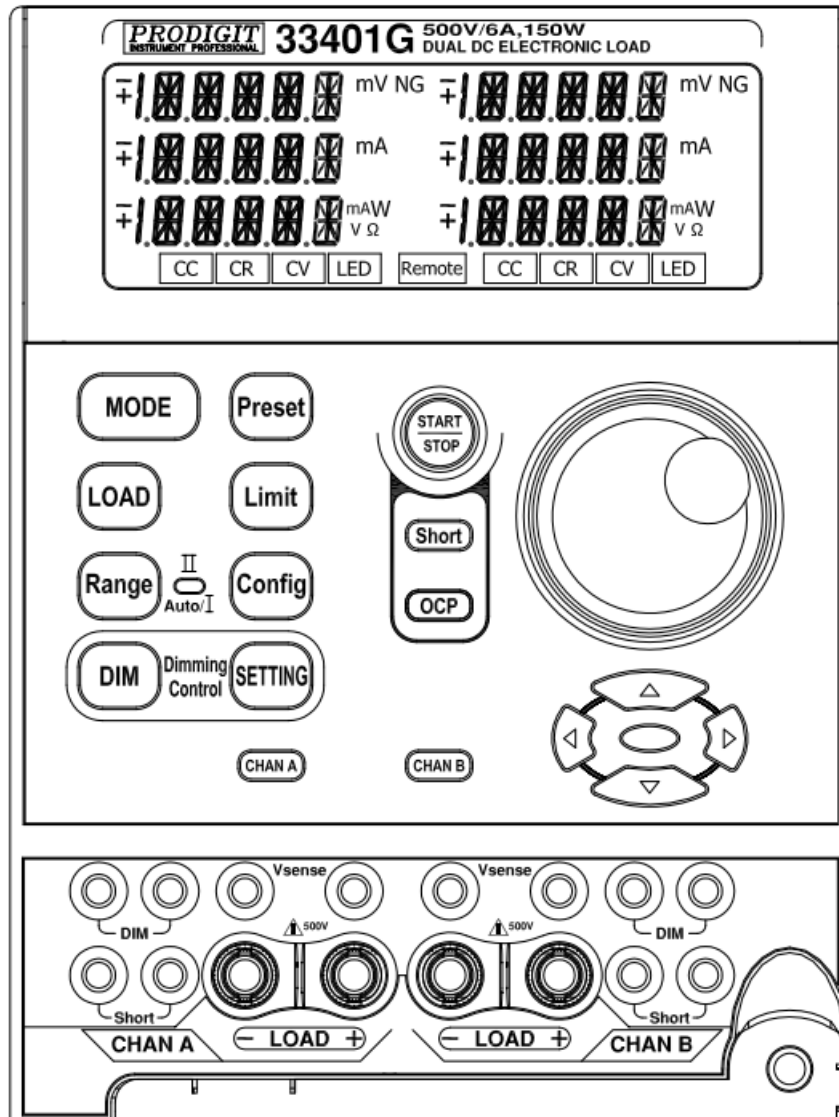

Fig 2-1 Binding post and withdraw handle on the front panel of 33401G Plug-in load module
- 2.1.1.4 Use the supplied screw to fasten the load module to the mainframe. The Screw hole is located at the end of the pull out handle at the bottom right Hand Corner of the 33401G series load module. The screw location is shown on Fig 2-1 and is below and to the right of The LOAD + binding post.